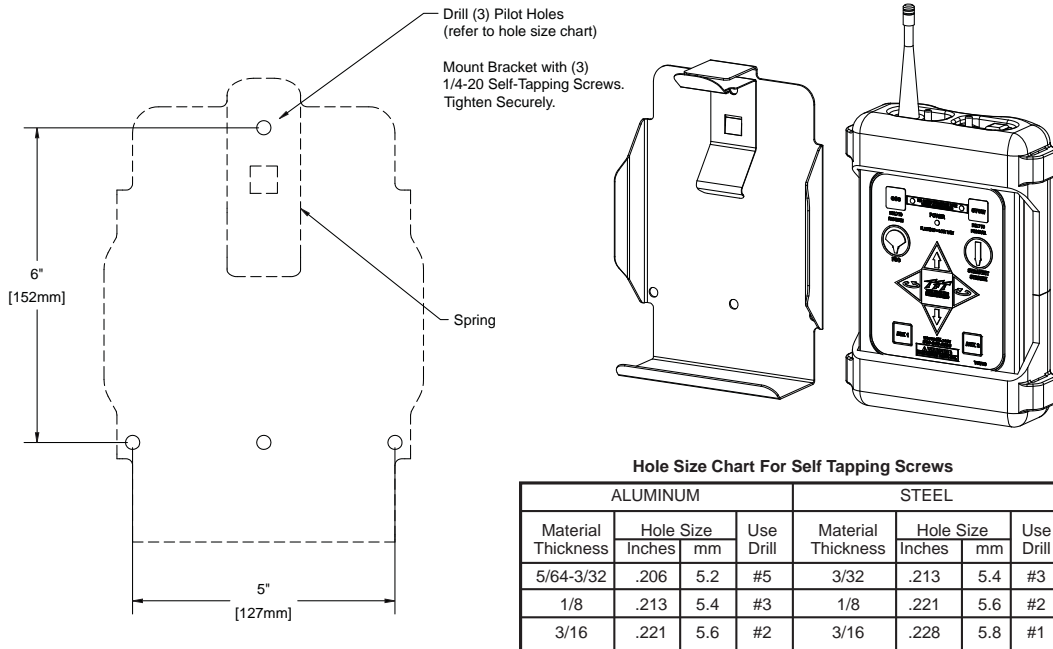

Fig 2.4.1 Wireless Operator Station Storage Bracket Hole Dimensions
The storage bracket is supplied with (3) 1/4-20 stainless steel self-tapping screws. Make sure the material beneath the bracket is substantial and thick enough to hold self-tapping screws. Make sure the area on the backside of the mounting surface is clear of obstructions. We recommend a minimum thickness of 3/32" (.093" - 2.4 mm) in aluminum and 5/64 (.078"-2mm) in steel. See the chart in Figure 2.4.1 to determine the correct pilot hole size.
Select proper location for mounting storage bracket. Panel space required will be 6.0" x 11.2" (152 x 285mm). Refer to Figure 2.4.1 for hole dimensions. Bracket can be used as a template. Be sure spring is in position.